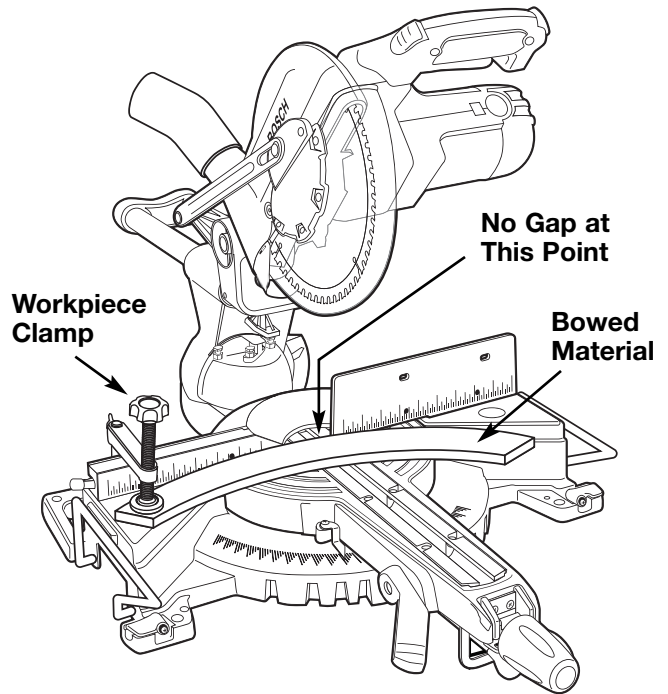

Figure 35. Bowed Material
**⚠ WARNING** If workpiece is bowed or warped, clamp it with the outside bowed face toward the fence. Always make certain that there is no gap between the workpiece, fence and table along the line of cut. Bent or warped workpieces can twist or rock and may cause binding on the spinning saw blade while cutting (Figure 35).